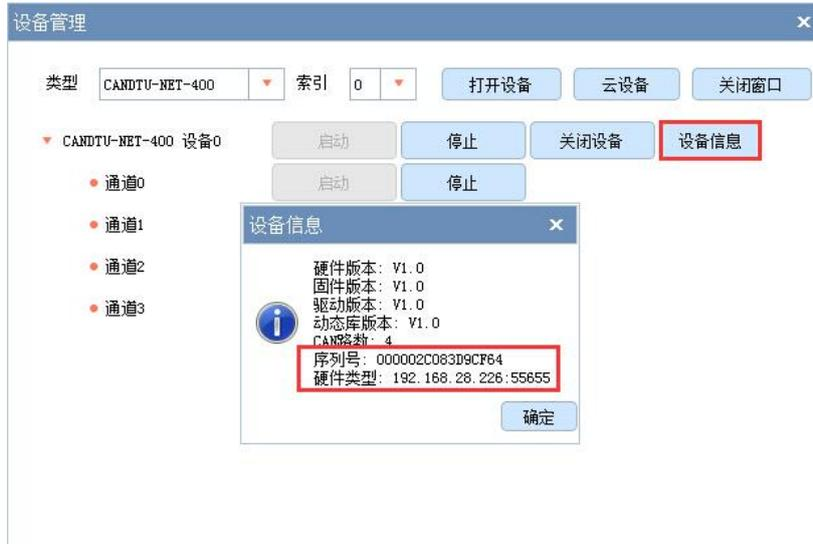

Figure 4.28 Device information selection
- 3) Wait until the device is connected. Open "Device Information" under "Device Management" to view the information of the currently connected device, as shown in Figure 4.28.